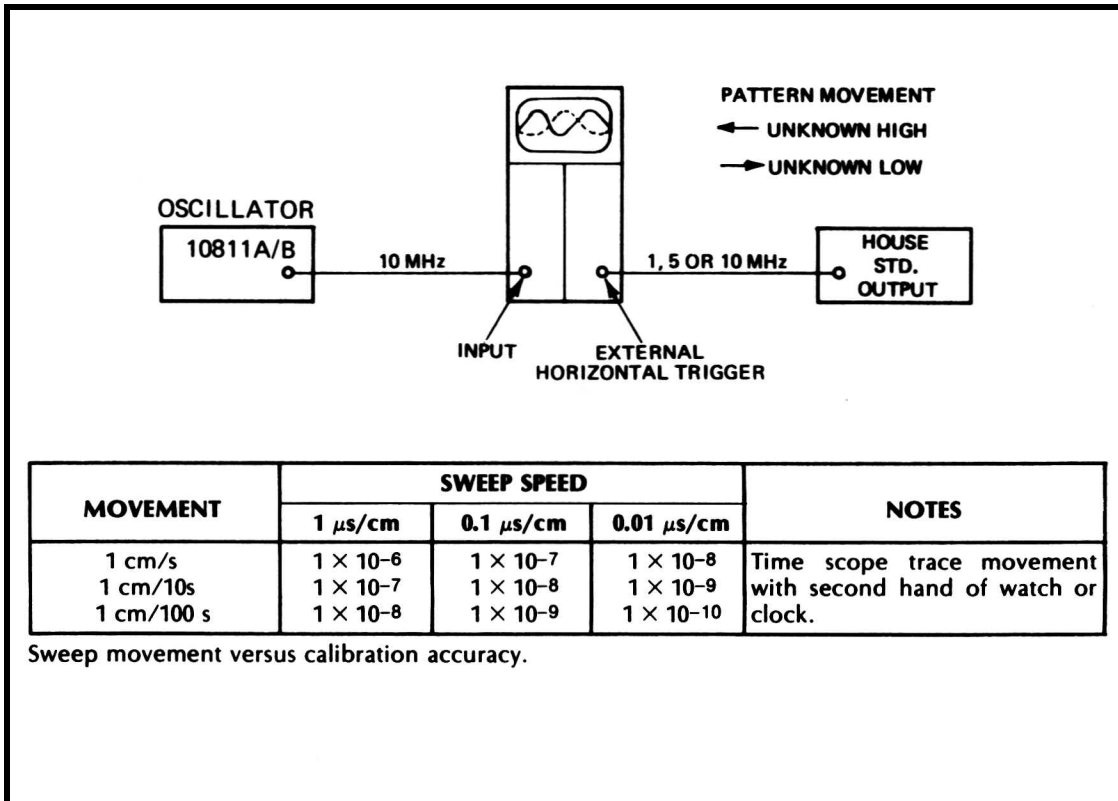

Figure 3-1. Oscillator Adjustment Set-Up
- e. By timing the sideways movement (divisions per second on the oscilloscope), the approximate offset can be determined based on the oscilloscope sweep speed shown in Figure 3-1